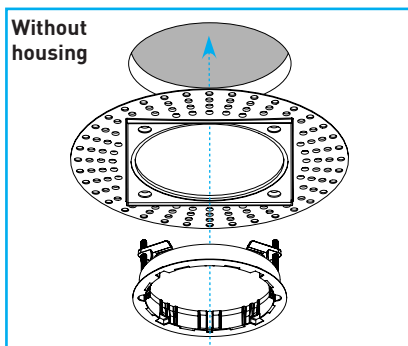

Fig.31
**Without Housing:** For remodel or tethered power supply installations without a housing, center appliqué in cut-out and install trim adaptor (with arms pointed inward) up through appliqué. To secure, tighten adaptor screws so arms swing out then down, until appliqué is fully seated against ceiling surface (Fig.31), ensuring desired alignment if square appliqué is used.